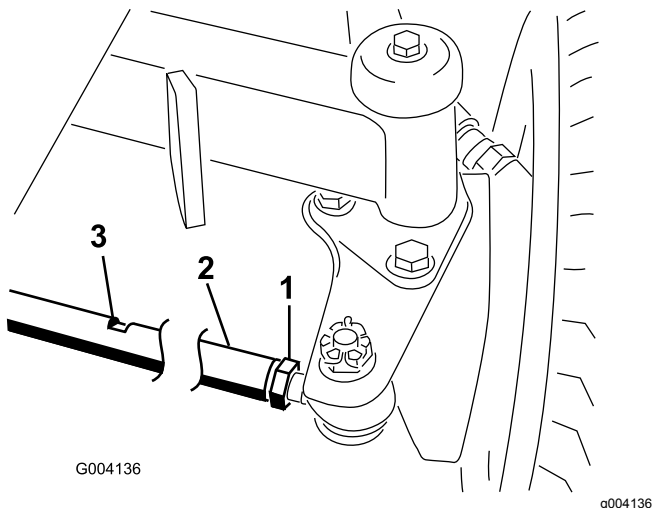

Figure 61
2. Loosen the jam nut on each end of the tie rod (Figure 61).